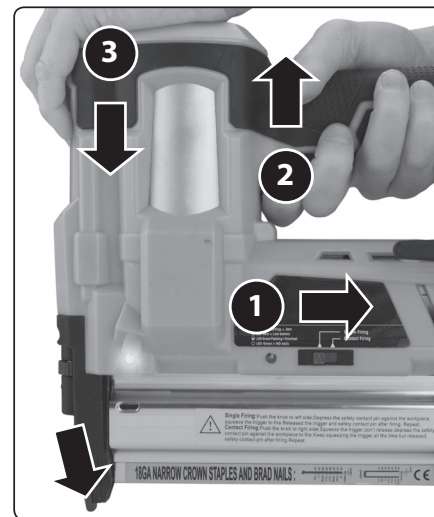

Fig. 5, continuous shooting mode (continuous contact triggering)
- When pulling the trigger, it is necessary to properly push down the nail/staple gun against the work surface and when the nail/staple is shot out to properly hold it down by the part according to fig. 4 or fig. 5, otherwise the nail/staple may not be properly driven into the material as a result of a loss of impact force when the nail/staple gun is kicked off the work surface.